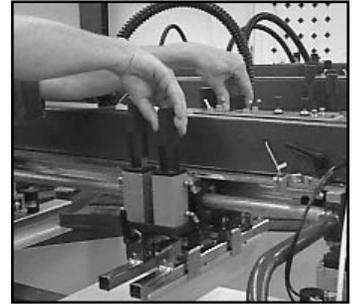

Fig. 5
4. Turn the flood pressure knobs clock-wise, to adjust flood bar all the way up. (See Fig. 5)